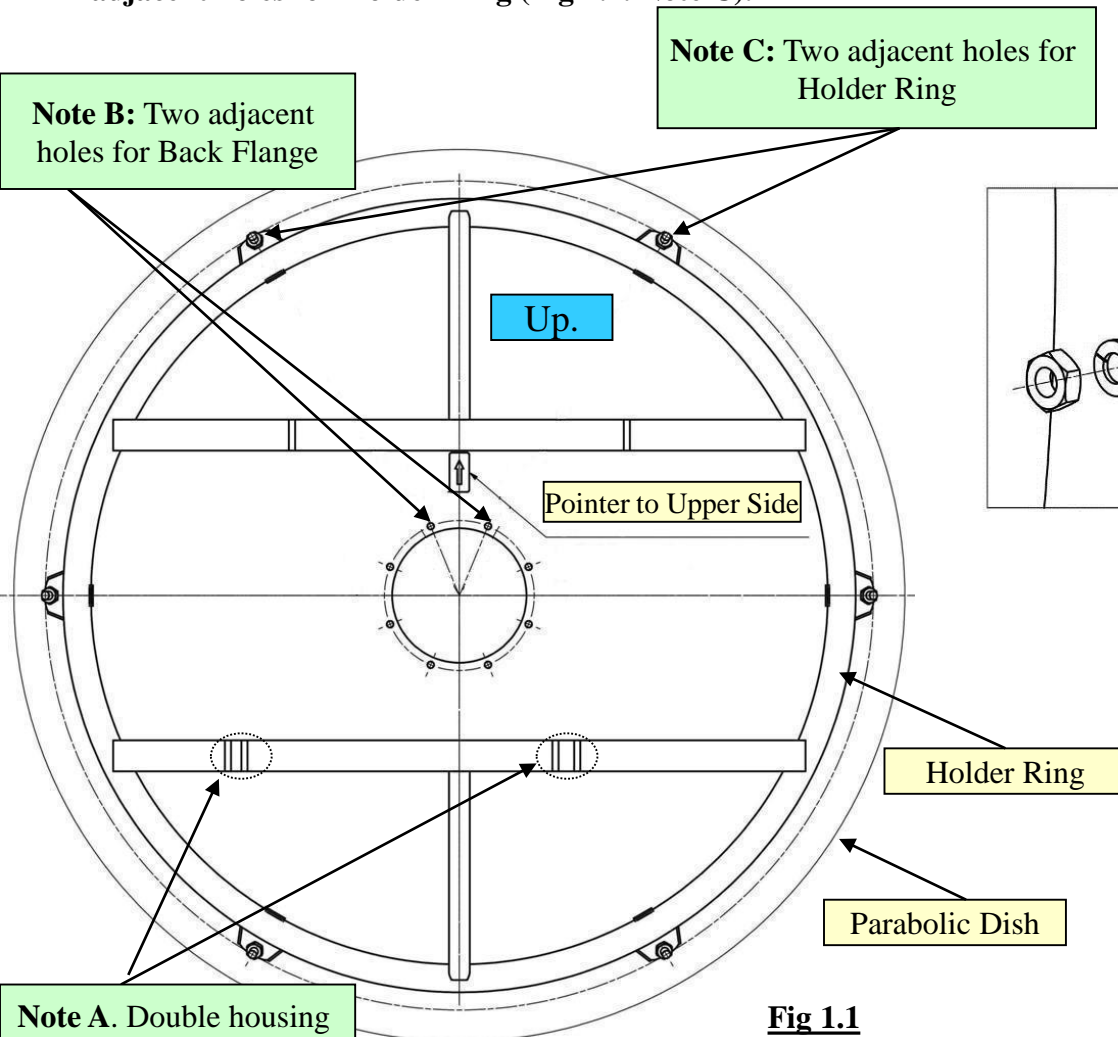
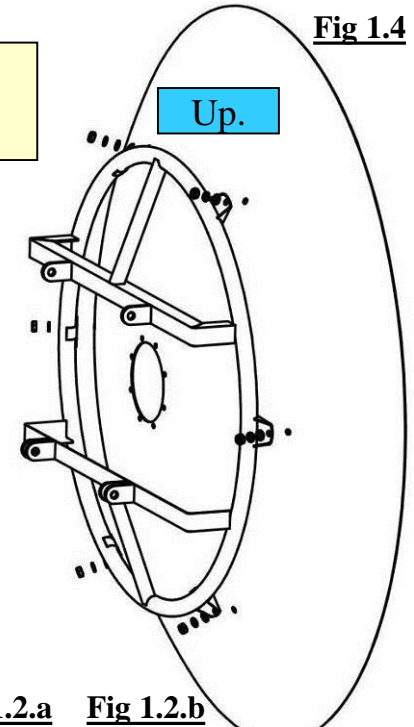
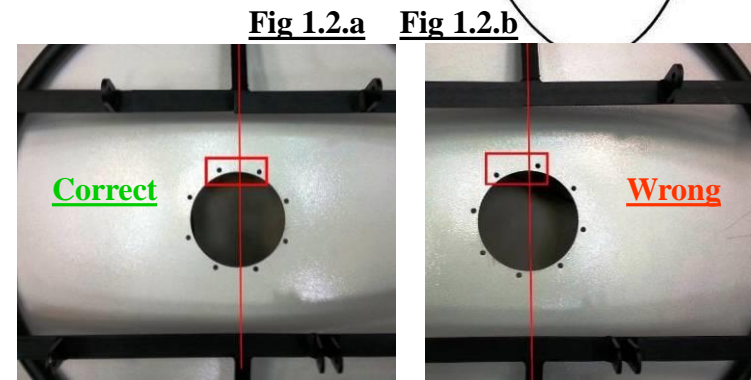

Fig 1.1
Fig 1.4
Fig 1.2.a Fig 1.2.b
- Double housing on Ring marks lower side of antenna (Fig 1.1. Note A).
- Points Upper and Lower of the Holder should be between two adjacent holes for Back Flange (Fig 1.1 Note B and Fig 1.2.a/b).
- Points Upper and Lower of the Holder should be between two adjacent holes for Holder Ring (Fig 1.1. Note C).
1.2 The Pointer (arrow) indicates Upper side of antenna. Use point "Up" of the Dish in Fig. 1.1 and Fig. 1.4 as upper side of the Dish (antenna).